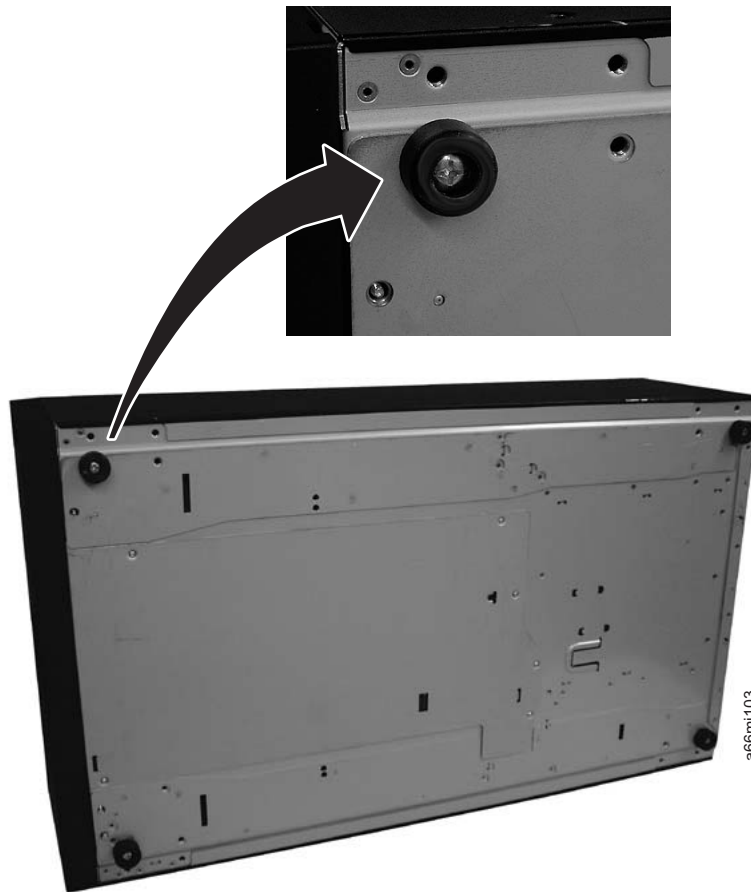

Figure 8-120. Foot pad Locations
2. Using a #2 Phillips screwdriver, install the foot pads on the bottom of the library chassis. See Figure 8-120 on page 8-112 for foot pad locations.